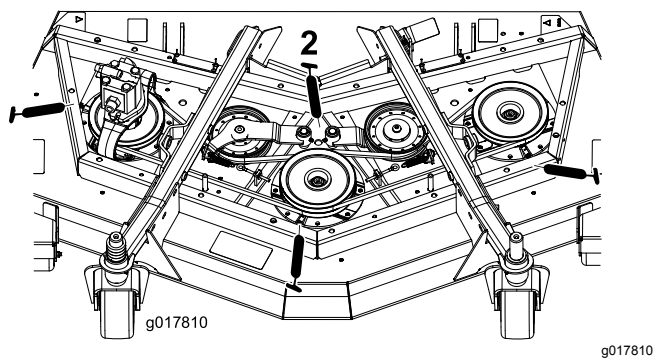

Figure 65
- 3 spindle-shaft bearings—located under the pulley (Figure 65)
- 2 idler-arm-pivot bushings (Figure 65)